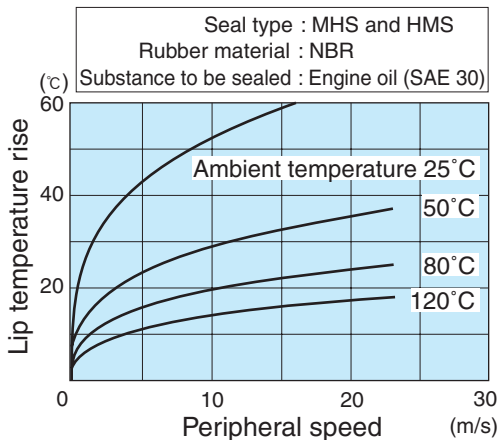

Fig. 1.6.4 Estimated lip temperature rise curves
- ② Determine the supposed ambient temperature
- ③ Find the point at which the ambient temperature curve meets the calculated shaft surface speed in Fig. 1.6.4
- ④ Read the ordinate value of the point
- ⑤ Obtain the estimated lip temperature by the sum of the ordinate value and ambient temperature
In Fig. 1.6.4, the cross of the curve for ambient temperature 80°C and peripheral speed 10.5 m/s indicates that the lip temperature rise will be 20°C .